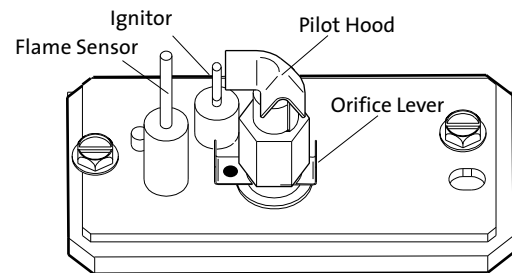

Figure 15a. Dual fuel pilot orifice conversion - LP position.
6. **CHANGE THE INTEGRATED DUAL-FUEL PILOT ORIFICE:** Use the 7/16" wrench to just loosen the pilot head enough to push in the orifice lever. See fig. 15a.